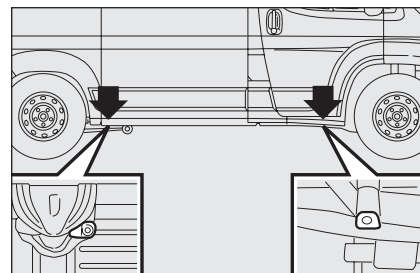

fig. 3
- ☐ position the jack near the lift support closest to the wheel to be changed at the points shown in **fig. 3**. For short wheelbase versions with a retractable